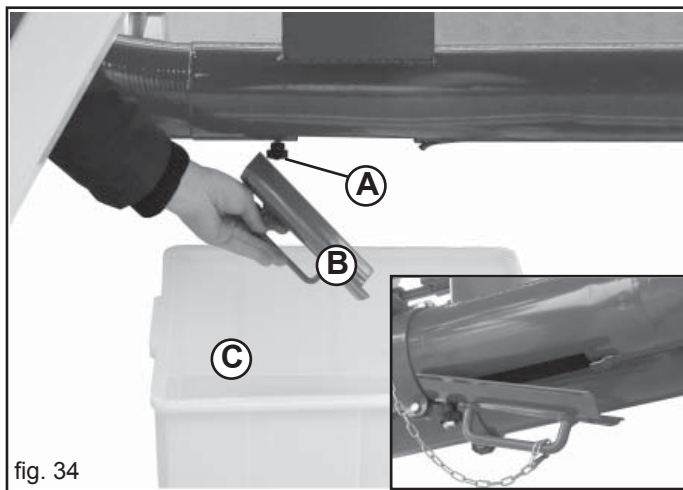

fig. 34
- Loosen the knobs (A, Fig. 34) and remove the sliding gates (B).
- Position the seed collecting trays under the seed discharge outlets (C Fig. 34).